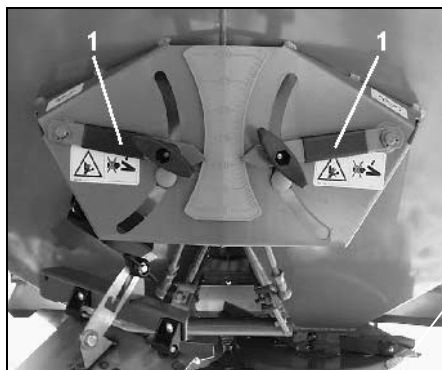

Fig. 58
- Set shutter slide position to „11” via the setting levers (Fig. 58/1).